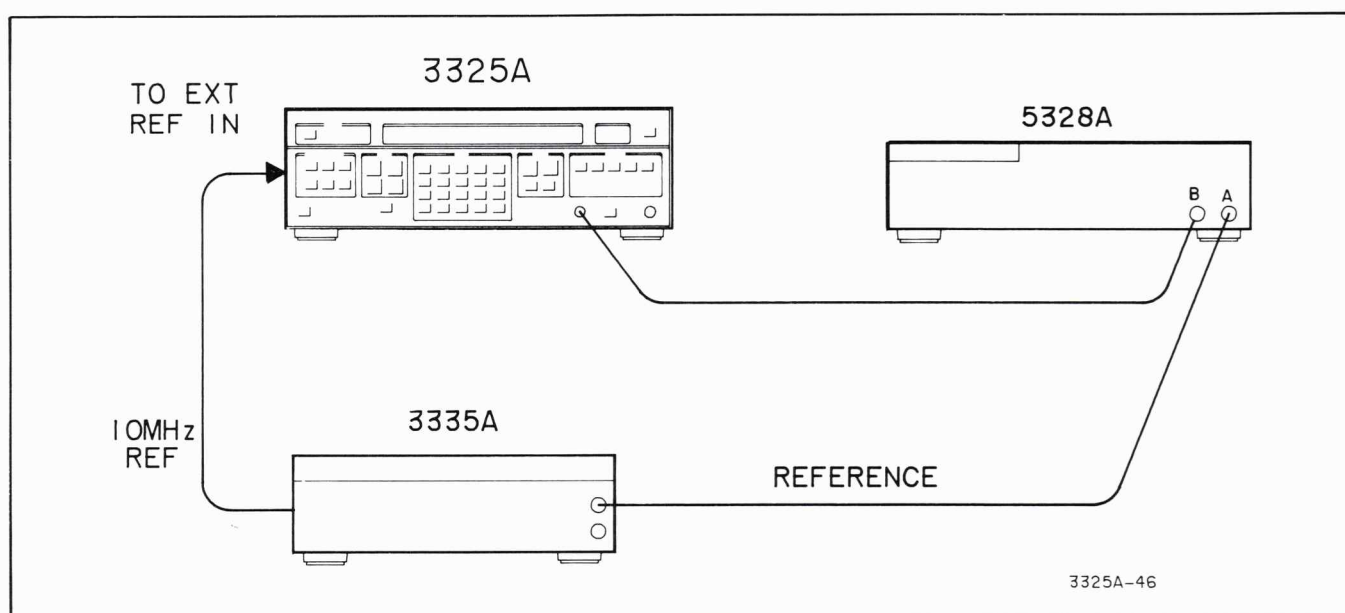

Figure 4-7. Phase Increment Accuracy.
a. Connect the equipment as shown in Figure 4-7.